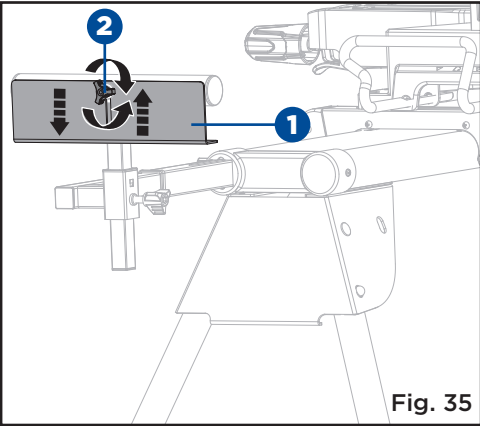

Fig. 35
**USING THE WORK STOP FOR MAKING REPETITIVE CUTS (Fig. 35)**